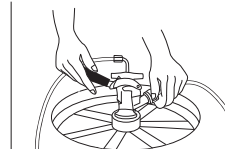

fig. 3
3. Before attaching the CO₂ line, be sure too insert the rubber directional washer into the side of the tap. Attach the CO₂ line (Fig. 3 - below) and hand-tighten firmly. Secure the tank with CO₂ tank strap.